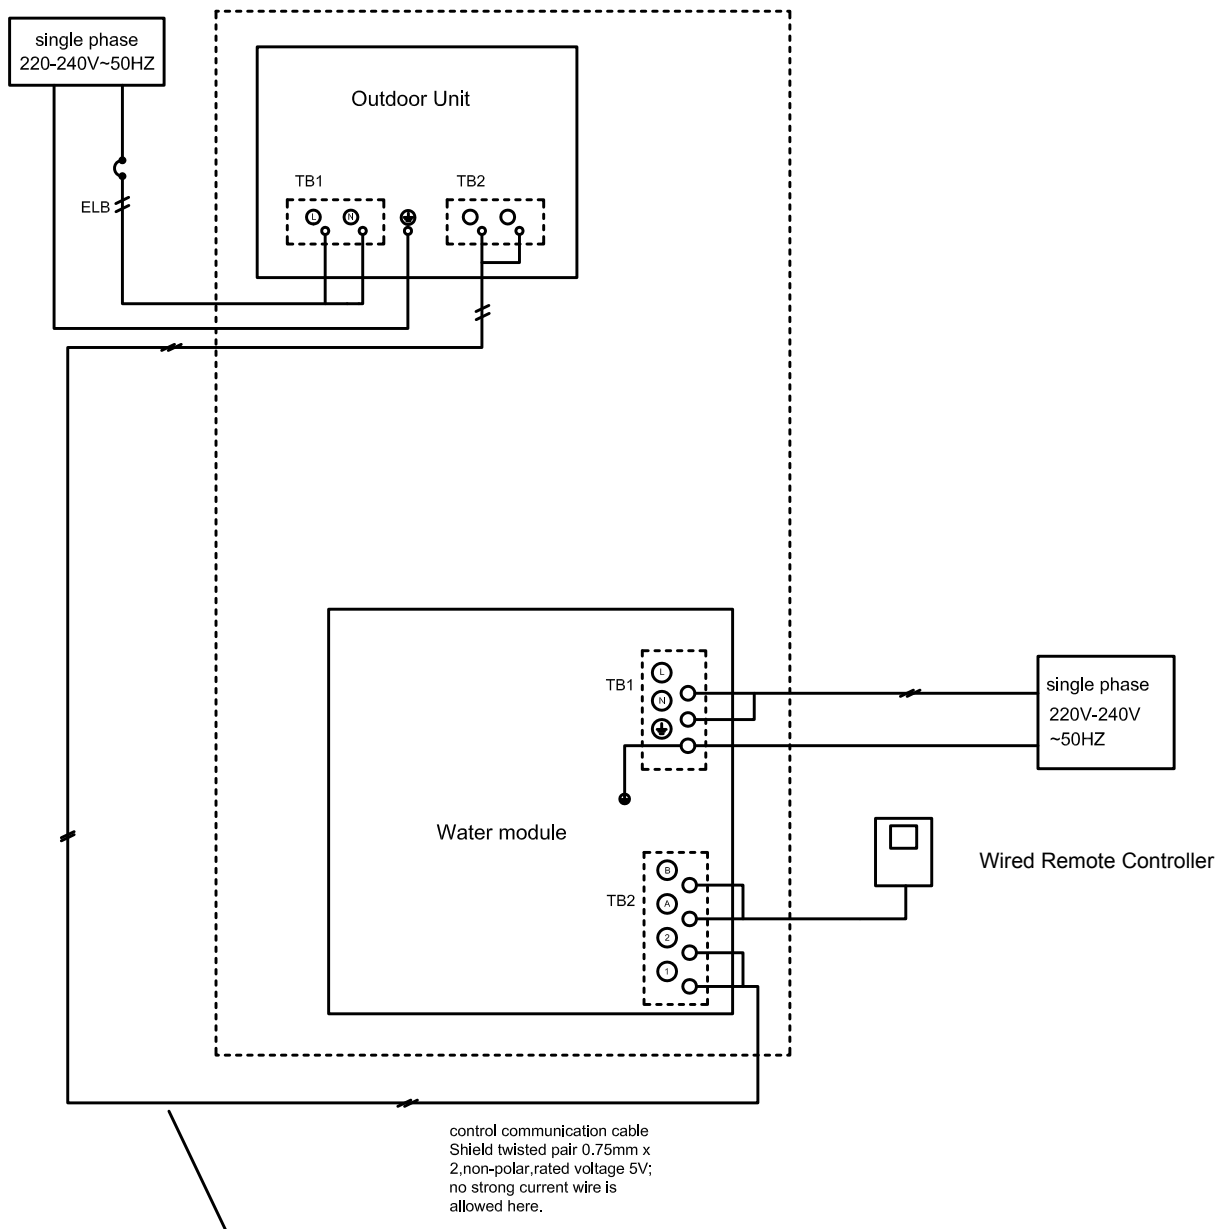

Fig. 6.2 Wiring Connection for Indoor & Outdoor
- (1) Connect the power supply wires to the terminal board in the electrical control box of both outdoor unit and indoor unit. And connect the earth wire to the electrical control box of outdoor unit. In addition, connect the earth wire to earth screw in the electrical control box of indoor unit. Refer to Fig.6.2